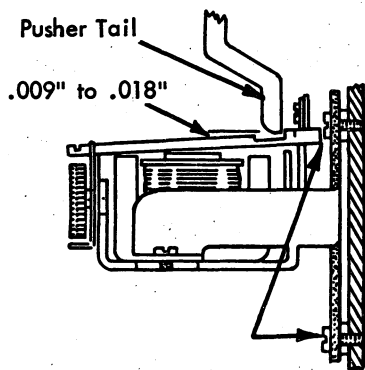

FIGURE 34.5 Mounting Bracket
7. **Mounting Bracket (Fig. 34.5)** - Position under its four mounting screws .009" to .018" clearance between the pusher tails and armatures.